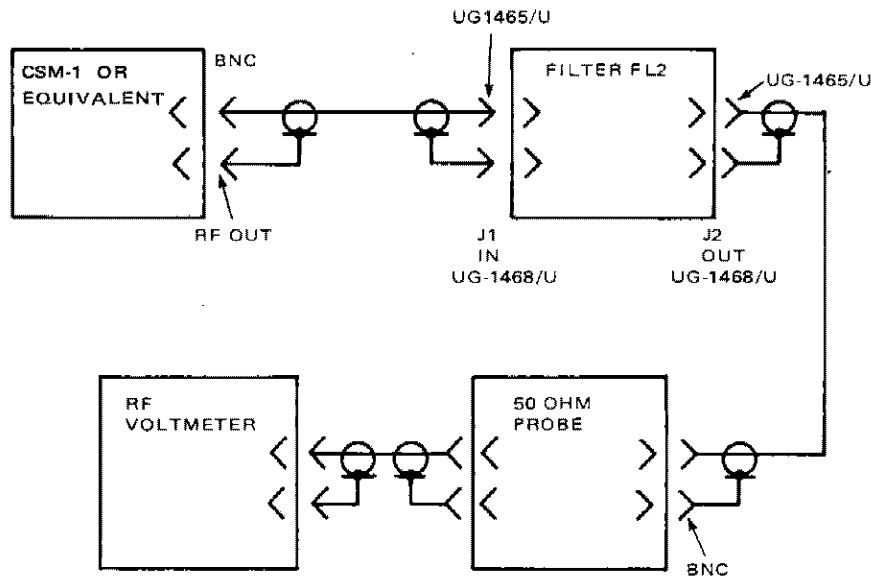

Figure 7-3. Test Setup for Tunable Filter FL2
**7.14.2 Tunable Filter FL2 Frequency Response Check.-** Figure 7-3 shows the test setup.
- Test cables, BNC (male) to UG-1465/U (2).
**7.14.2.2 Procedure (VHF).-** Connect test equipment as shown in figure 7-3 and proceed as follows:
7.14.2.3 Procedure (UHF).- Connect test equipment as shown in figure 7-3 and proceed as follows: